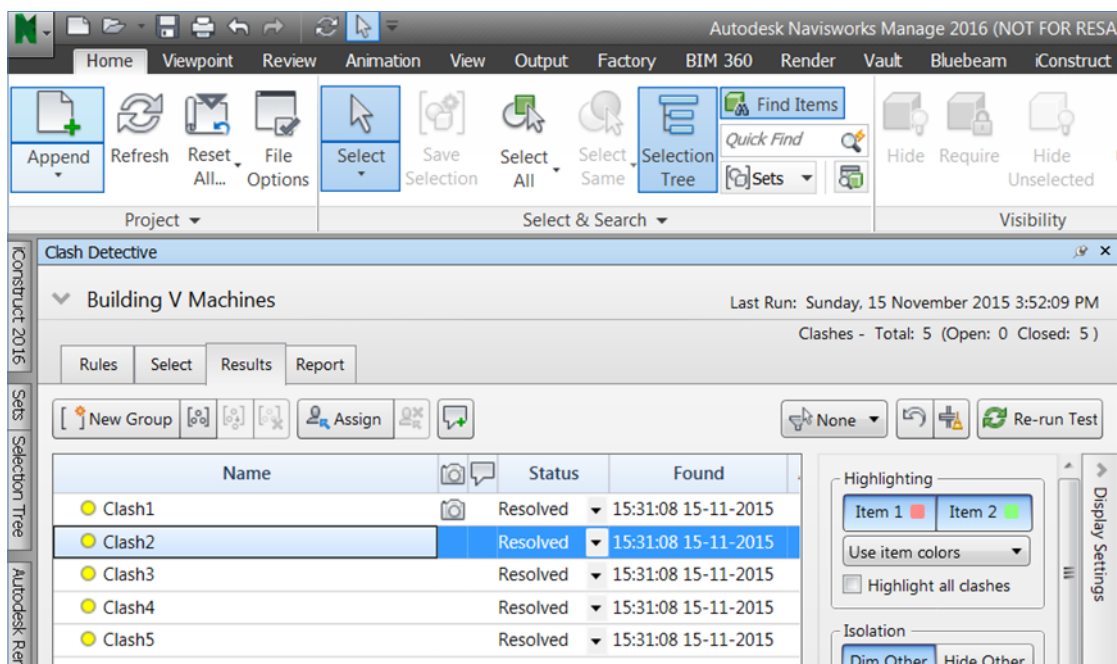

FIGURE 17: THE CLASH RESOLVED
- Once the clash test is updated, you can see if the clashes have been resolved or not, as shown in Figure 17.